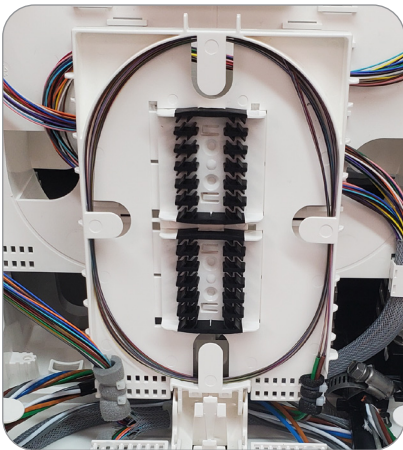

Figure 82
7. Route all fiber back into tray and replace splice tray cover (Figure 82). Repeat steps for the second splice tray (Figure 83).